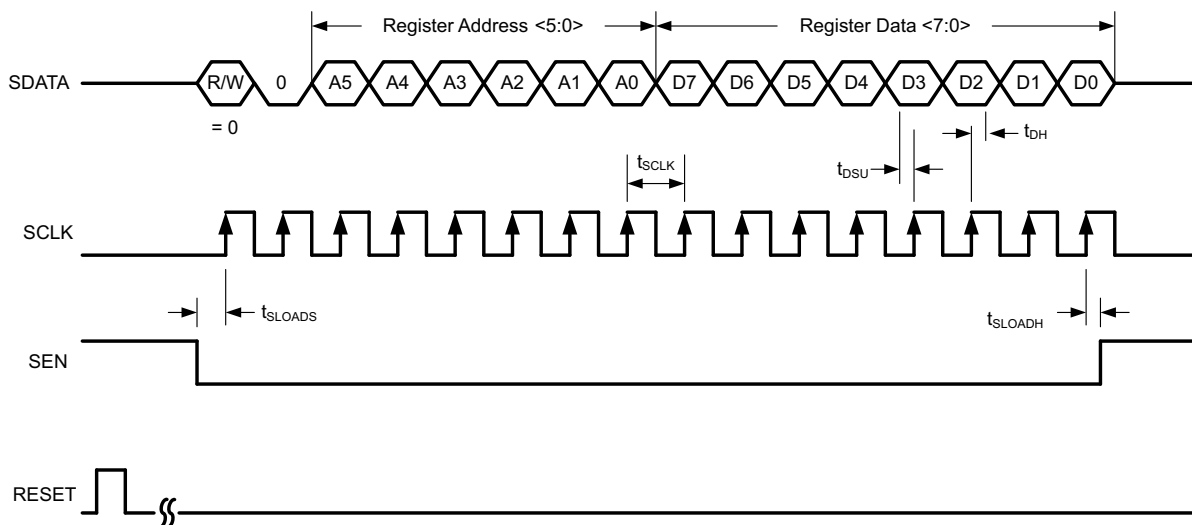

Figure 79. Serial Register Write Timing Diagram
4. Initiate a serial interface cycle specifying the address of the register (A5 to A0) whose content must be written (as shown in Figure 79 and Table 4).